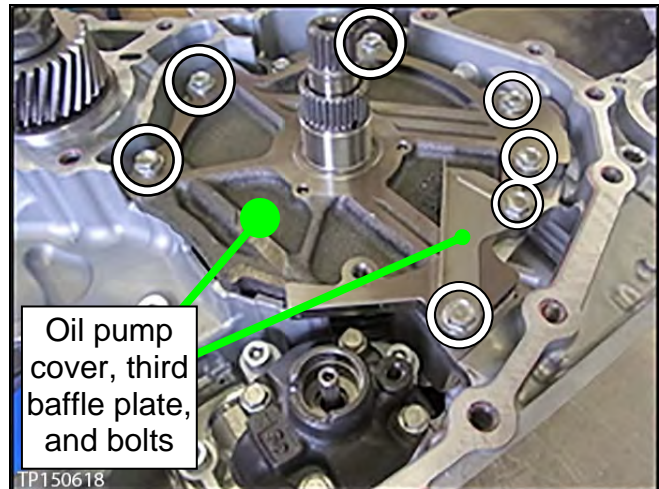

Figure 66
8. Install the oil pump cover and third baffle plate with related bolts finger tight (see Figure 66).